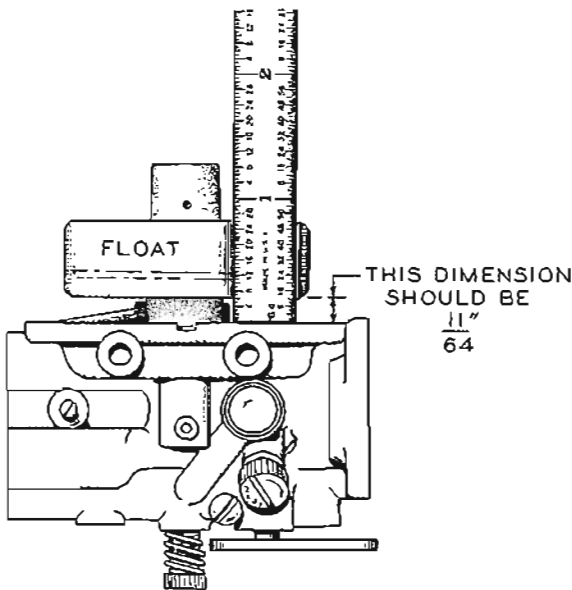

Figure A-12. Measurement Of Carburetor Float Level.
Check the adjusting needles and nozzle for damage. If the float is loaded with fuel or damaged, replace it. The float should fit freely on its pin without binding. Invert the carburetor body and measure the float level (fig. A-12).
(f) Check the float level with the carburetor casting inverted (fig. A-12 & par (3) above).